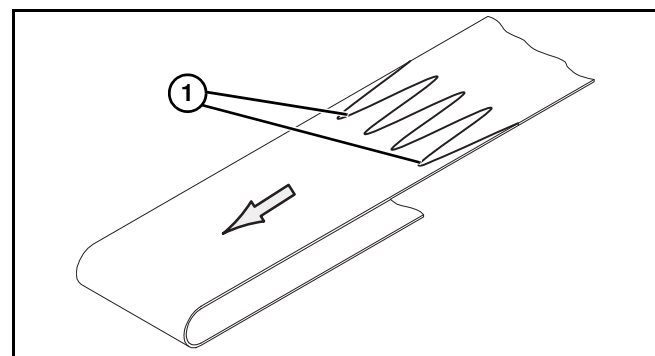

Figure 71
1. Orient the conveyor belt so that the splice outer fingers (**Figure 71, item 1**) point in the direction of belt travel, indicated by the label (**Figure 70, item 1**).